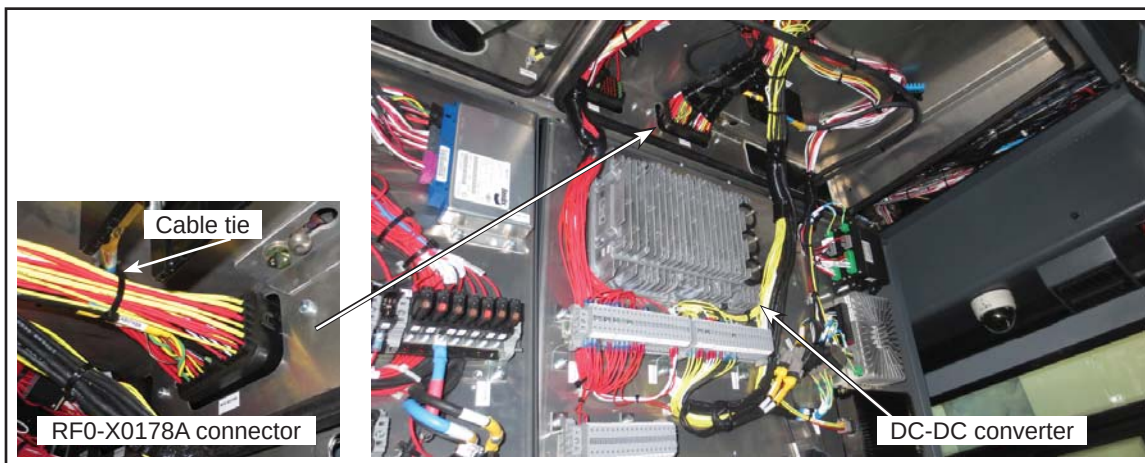

Figure 1 - Location of RF0-X0178A Connector in the RF0 Electrical Panel
- 1.2. Locate the RF0-X0178A 78 pin connector. See Figure 1.
- 1.3. Remove the cable tie on the wire harness of the RF0-X0178A connector. See Figure 1.